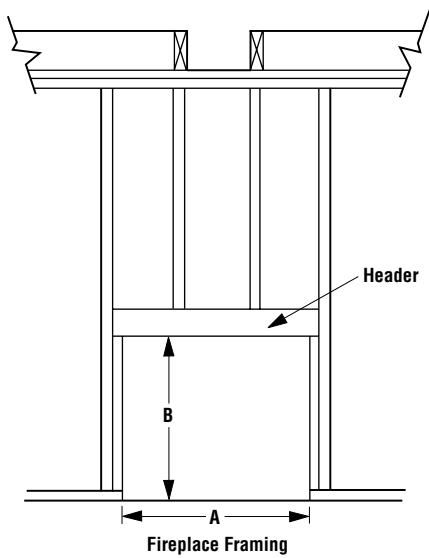

Figure 10
**Step 3.** Refer to fireplace drawings and specifications on pages 6 and 7 for framing dimensions and details. Frame appliance enclosure as illustrated in Figures 10 through 13 on page 7.